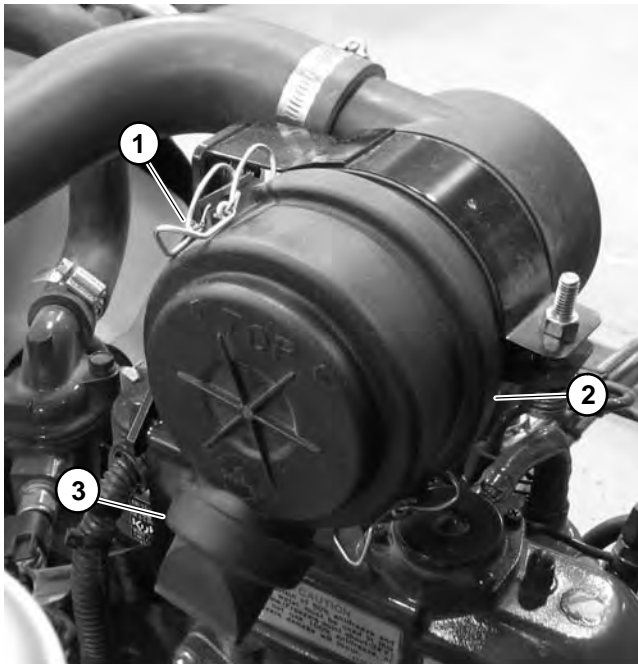

Figure 3
2. Check air cleaner body for damage that could cause possible air leaks. Make sure filter cover seals completely to the air cleaner body (Fig. 3).